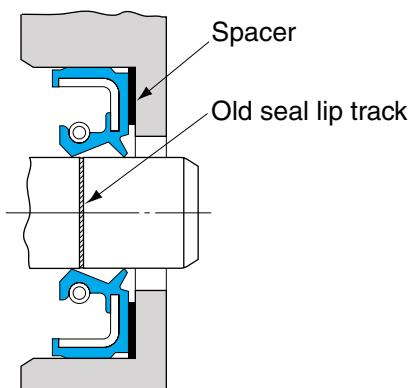

Fig. 1.7.10 Avoid old seal lip track
- 9) When oil seal is replaced, use a new seal. Contact position of new seal lip on the shaft should be displaced to 0.5 mm (1~2 mm for large-size seals) from the old seal lip contact position by applying spacer as illustrated below (Fig. 1.7.10).